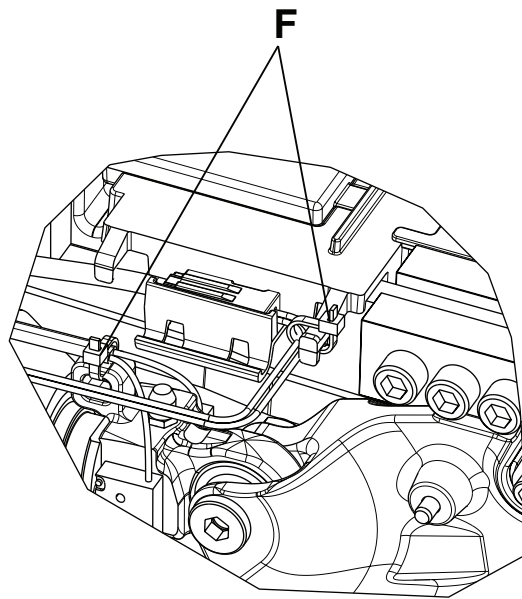

Figure 23 – Cable ties location
9. Using diagonal pliers, cut the cable ties (F) that secure the hydraulic cylinder rod end assembly cable to the plastic cover (Figure 23).